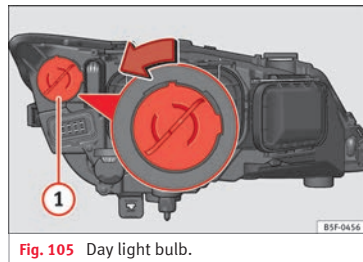

Fig. 105 Day light bulb.
- Turn the bulb holder » Fig. 105 ① to the left and pull.